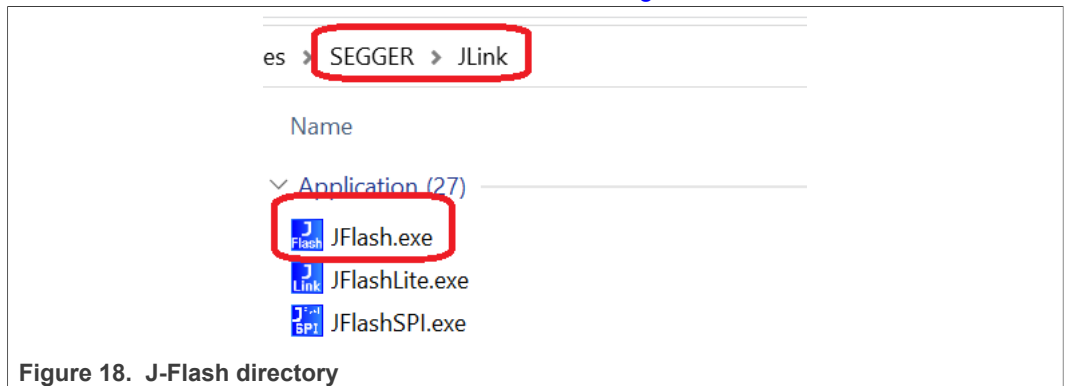
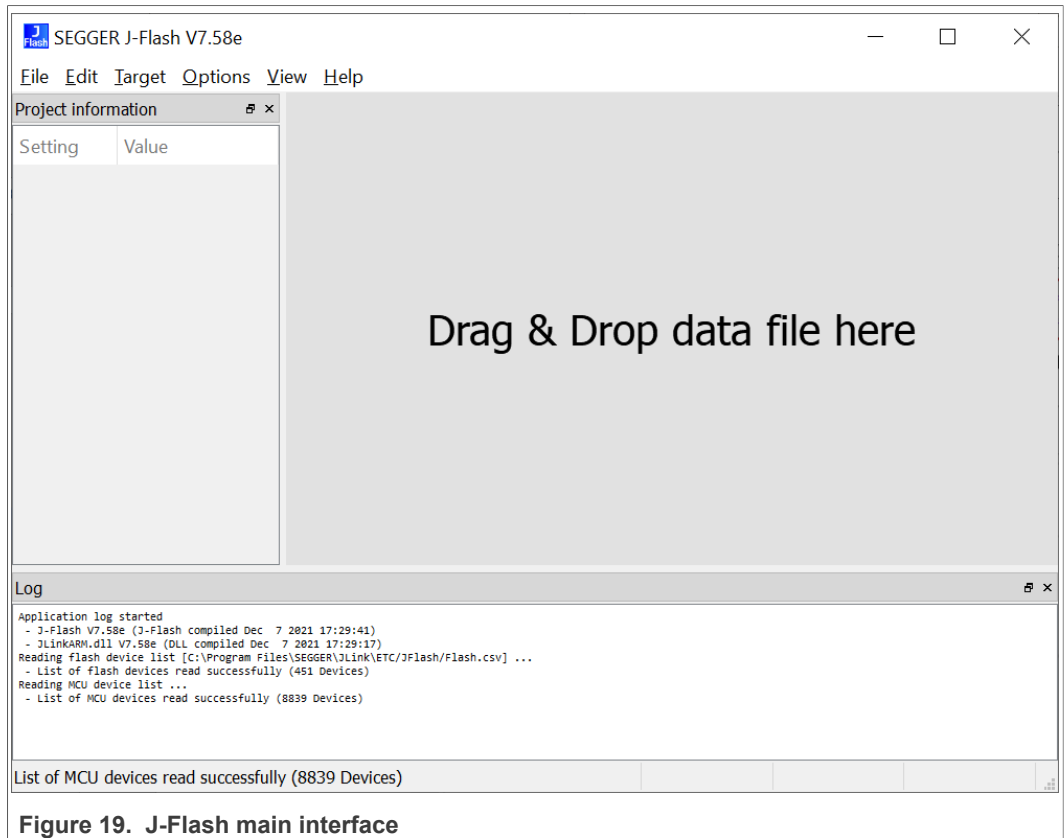

Figure 18. J-Flash directory
Figure 19. J-Flash main interface
- c. Start up `J-Flash.exe` located in the directory, as shown in Figure 18. After J-Flash is started, the main interface is as shown in Figure 19.